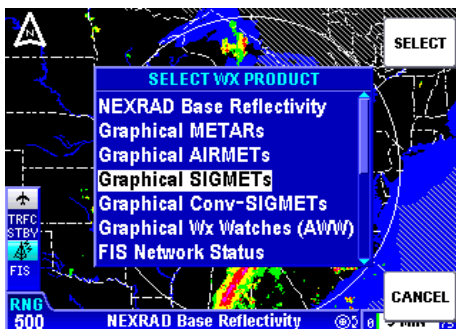

Figure 2-23
2. Press the **CHOOSE PRODUCT** Softkey to display Figure 2-23 (Figure 2-24 for XM).